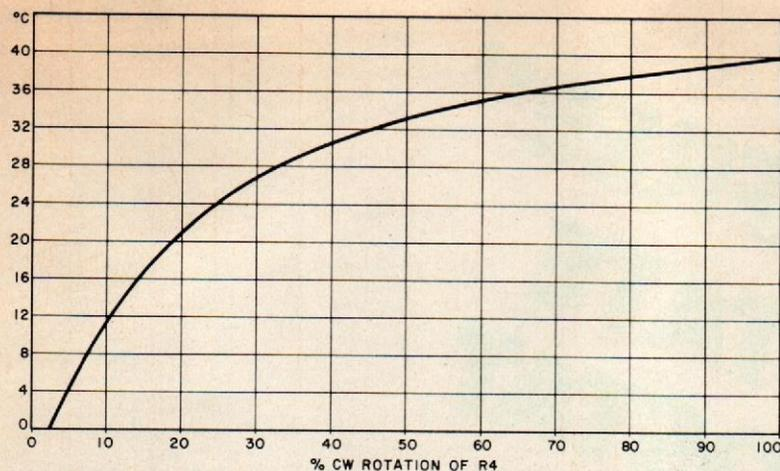
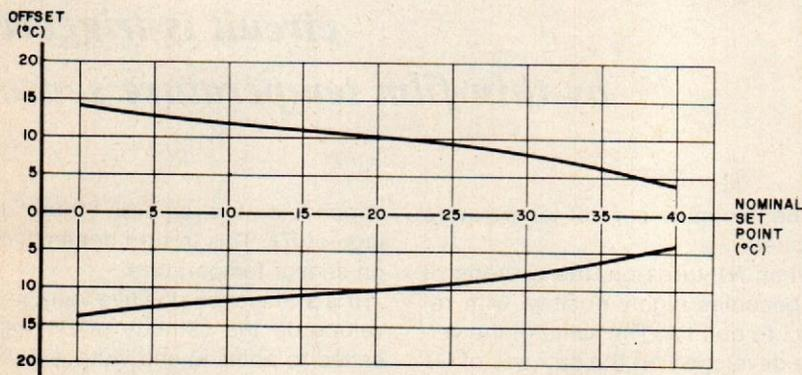
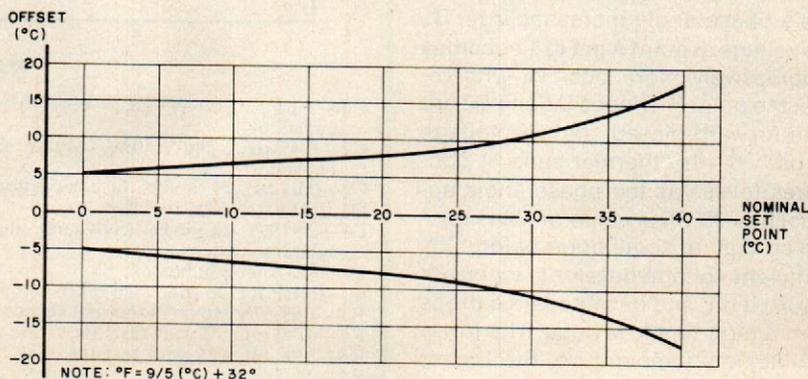

Fig. 2. Curve shows how thermostat setting is affected by R4.
Fig. 3. Worst-case recalibration curve for a nontypical D5.
Fig. 4. Variations in R1 can be corrected using these curves.
**Calibration and Use.** Potentiometer R4 acts as the thermostat's sensitivity control. Figure 2 shows how the thermostat's set point varies as R4 is rotated. This curve is valid when all components are at their "typical" values. Of course, solid-state and thin-film devices are subject to some variations. Figure 3 shows the worst-case recalibration required with a "nontypical" D5. Worst-case variations of the thermal sensor will affect the calibration curve as well, and the resulting recalibration is shown in Fig. 4. All thermostats can be calibrated to within 2° C of Fig. 2 by trimming R3 and R8.